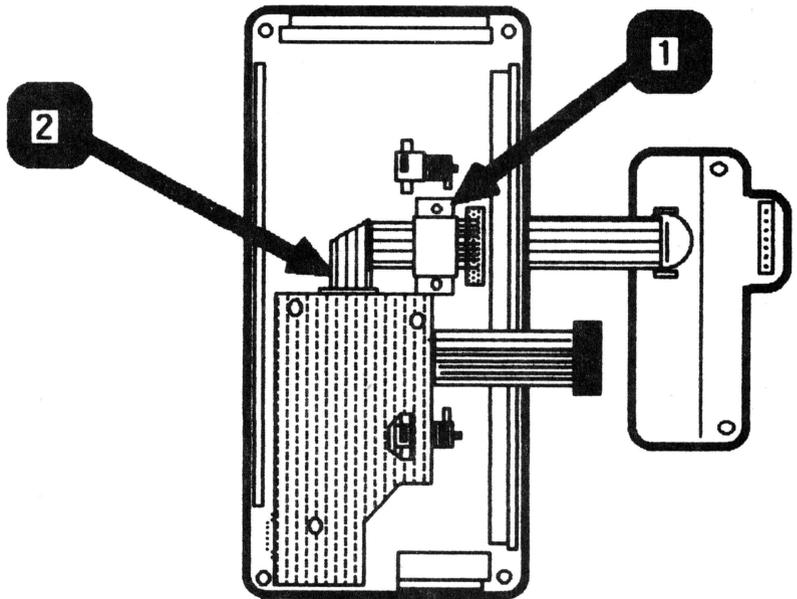

FIGURE 16
9. Flip the back side of the flat panel over and replace the metal cable clamp (Figure 16, #1).
10. Connect the ribbon cable to the contrast card as shown in Figure 16, #2.